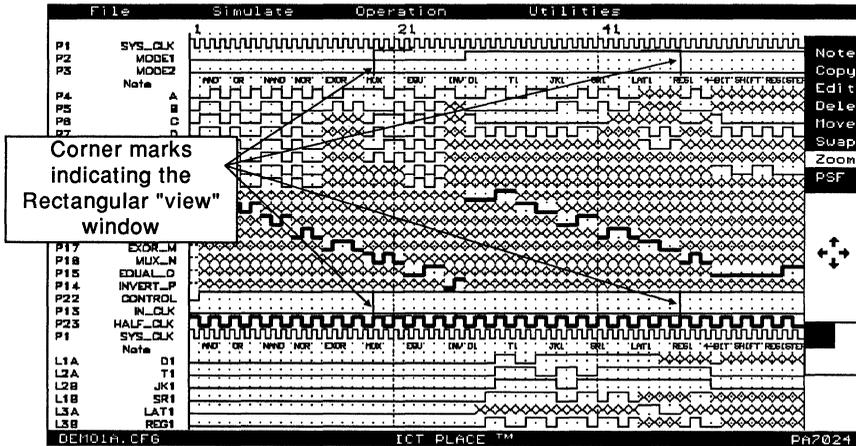

Figure 4-54, Mode B of the "Zoom" waveform screen
- To enter Mode B, click at the "Zoom" menu once again but this time don't release the left button of the mouse. A rectangular box depicting a window view of the current selected waveform screen is displayed (Figure 4-54). This rectangular "view" window can be moved to another location by moving the mouse. If you wish to return to Mode A at this time, press the right button of the mouse while the left button is being pressed. Otherwise, releasing the left button of the mouse will return you to the normal waveform screen selected via the rectangular "view" window.